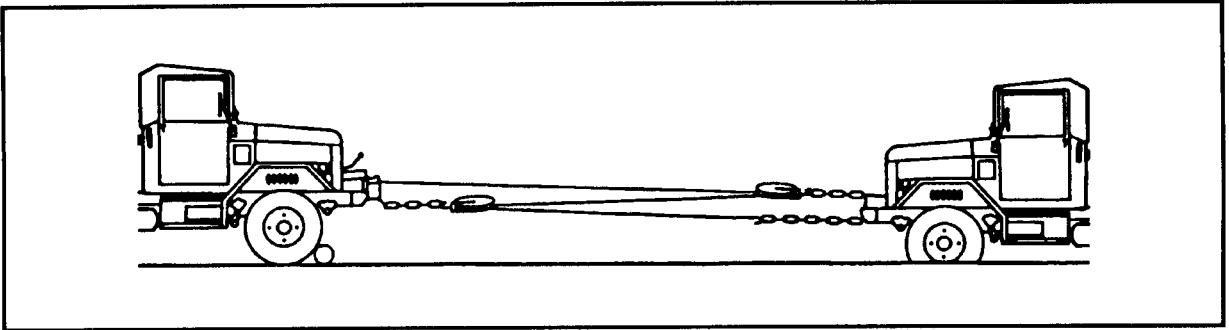

FIGURE 22-7. Three-Part Line.
*Three-Part Line.* To get a mechanical advantage of 3:1, use two snatch blocks – one at the load and one on the winch vehicle (Figure 22-7). Thread the winch cable first through the block on the load, back through the block on the winch, and then again to the load where it is secured.